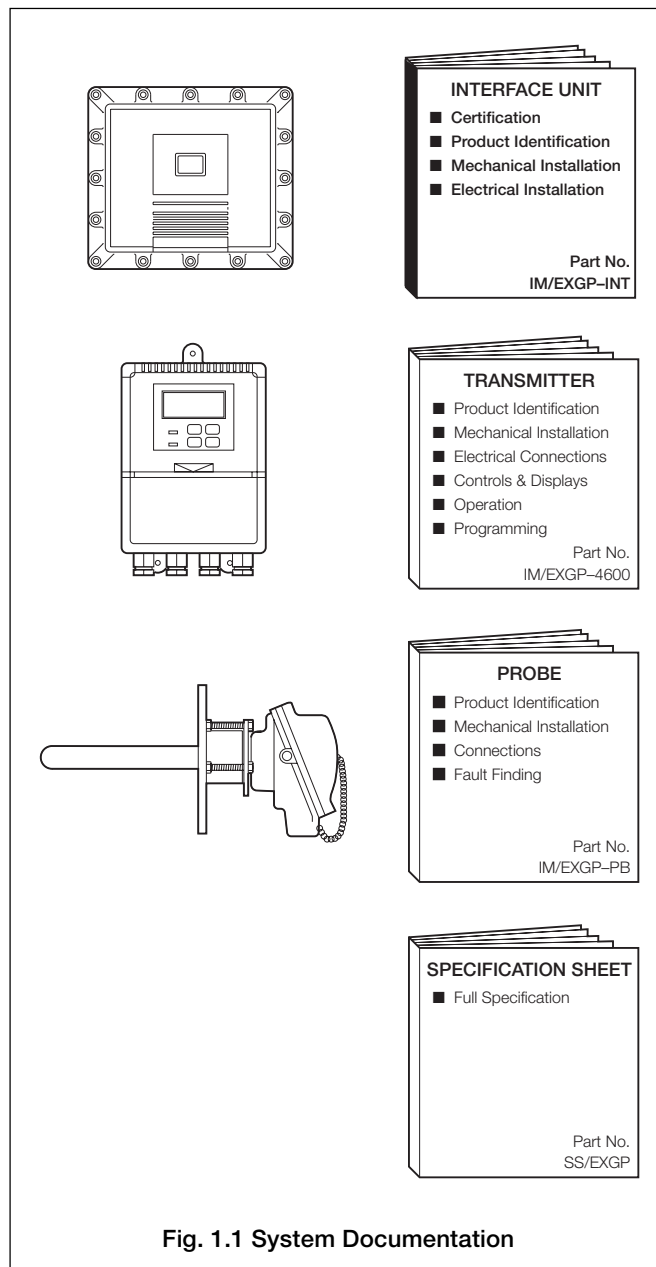

Fig. 1.1 System Documentation
1.1 Documentation – Fig. 1.1
Documentation for the EXGP Oxygen Analyzer System is shown in Fig. 1.1.